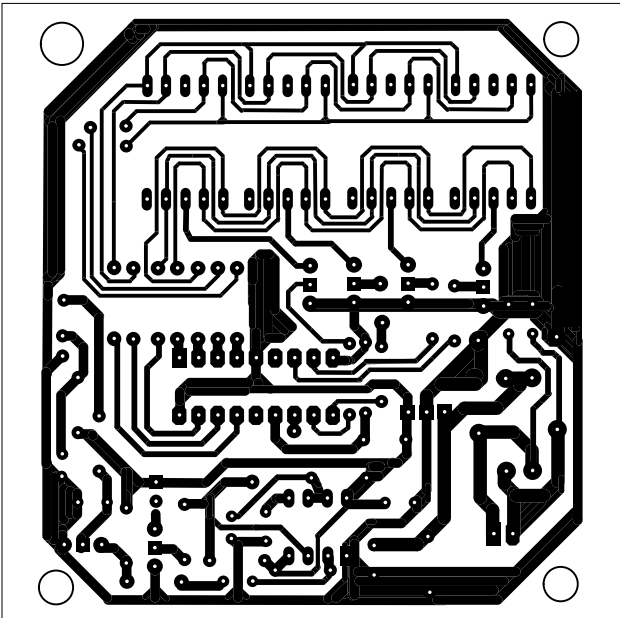
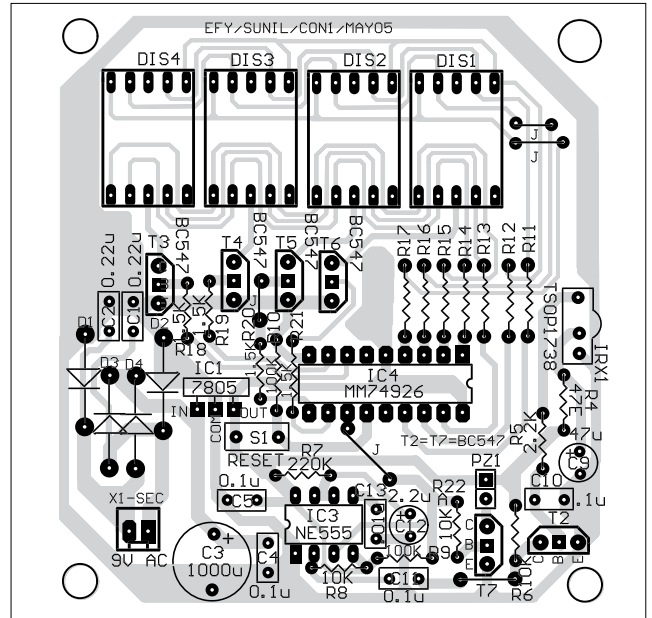

Fig. 9: Actual-size, single-side combined PCB layout for infrared interruption counter, power supply and beeper
Fig. 10: Components layout for the PCB in Fig. 9
6) is shown in Fig. 9 with its components layout in Fig. 10.